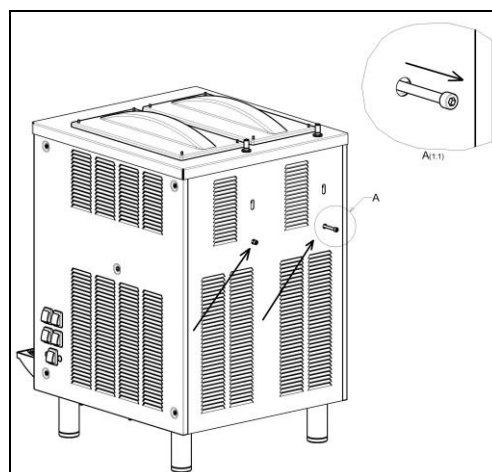

Fig. 4
THE MP RANGE IS SUPPLIED WITH A LOCK SCREW PLACED ON THE REAR PANEL, REMOVE THIS SCREW BEFORE STARTING THE EQUIPMENT (FIG.4) AND KEEP IT CAREFULLY SO THAT IT CAN BE RE-ASSEMBLED IN CASE OF NEXT SHIPMENTS.
- Dilute and mix the product in a separate container according to the manufacturer's instructions (see fig.4); never pour dry powder, crystals, or concentrate into a dry bowl.